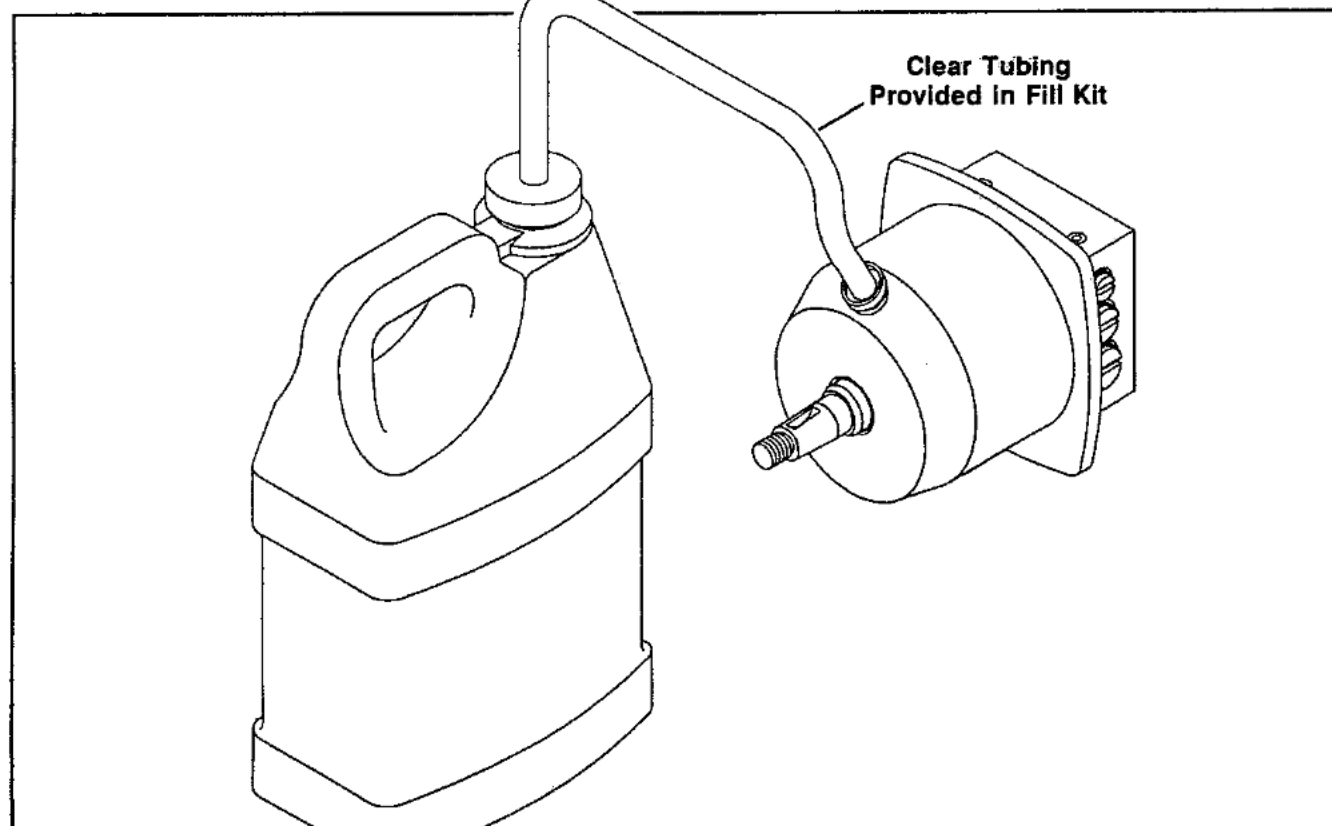

Figure 2
2. Remove the lid from the Hynautic oil container and replace it with the plastic spout provided in the Purge Kit. Make sure the spout is clean then slide one end of the clear tubing (1/2" I.D.) onto the nose of the spout. Slide the other end of the tubing onto the nose of the purge adapter. See **Figure 2**.